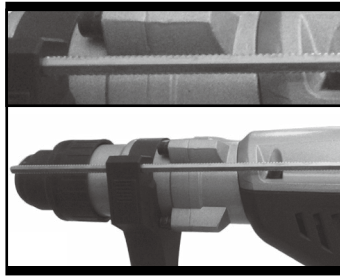

Fig. 7-1
8. INSTALLING THE DEPTH GAUGE (See Fig 7-1, 7-2)
Note: The depth gauge can not be used at the position where the depth gauge strikes against the tool body. And the depth gauge must be installed correctly (See Fig. 7-1, 7-2).